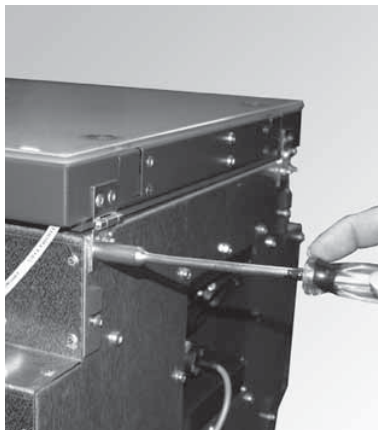

Fig. 22 Fit rear cover at 4 points
- Fit „rear cover“ (part 5) at the rear, use 4 nuts to secure to reserve supply container – Fig. 22.